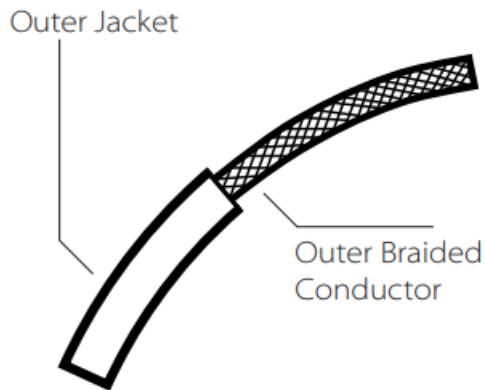

Fig. 1
1. Make a 1" slice along the length of the cord's outer jacket (Fig. 1).
2. Carefully strip the outer jacket of the cord and keep the outer braided conductors intact (Fig. 1).